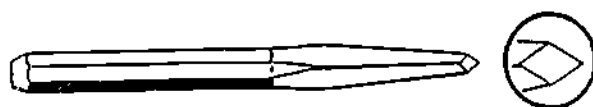

Figure 2-26. Diamond Point Chisel
**Diamond Point Chisel** The diamond point chisel (Figure 2-26) is used to cut V-shaped grooves such as those in a boiler tube that is to be removed from a sheet. It can also remove tack welds and chip metal out of square corners.